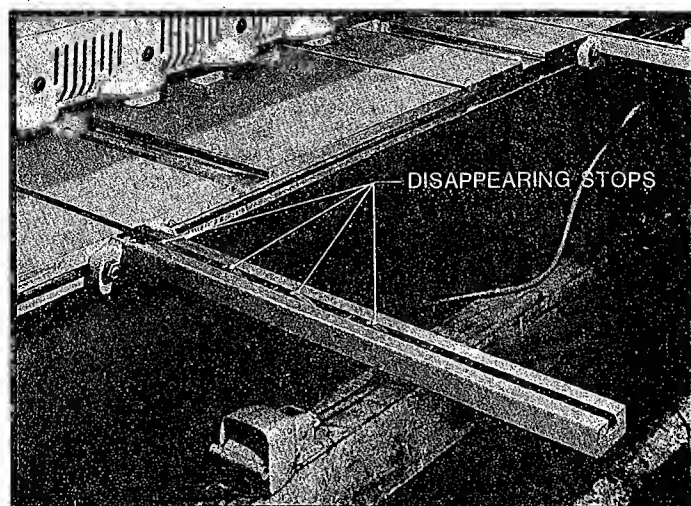

FIGURE 30
These arms are bolted to the front face of the table. Two or more support arms, depending on the shear length, are supplied with each shear as standard. Each of these arms has either a disappearing or solid stop. Optional extra long arms are available, which are approximately 24" longer than standard. The front support arms can also be supplied with graduated scales. See Figure 30.
2. Disappearing stops (Figure 30) are used in the dovetail slots of the table and front support arms, and in the special squaring arm with dovetail slots.